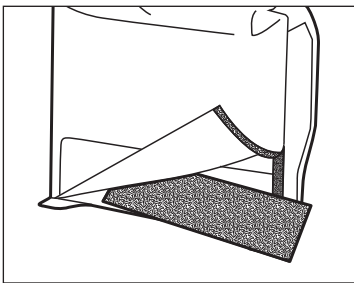

Figure 24. Loosen the Velcro.
2. Loosen the Velcro and take out the filter screen (see Figure 24).